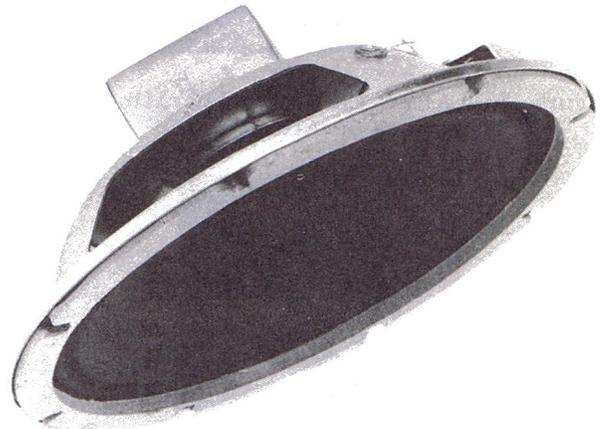

Figure 1 - Typical Cone-Type Loudspeaker
3.07 Loudspeakers - Two different types of loudspeakers are used in loudspeaker paging systems. These are cone-type and horn-type loudspeakers. Cone-type loudspeakers are of the type used in commercial radio and television receivers. A typical cone-type loudspeaker is shown in Figure 1. Horn-type speakers will deliver greater audio output for a given electrical input than a cone-type speaker, and are usually used whenever the area to be covered is noisy or where a large area is to be covered with a single speaker.